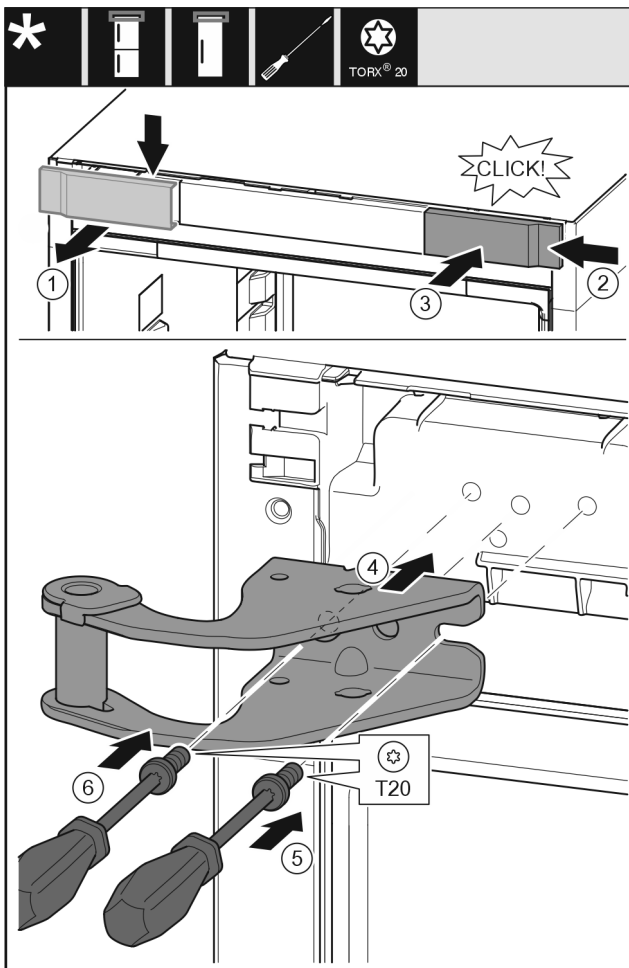

Fig. 29
- ▶ Remove the cover Fig. 29 (1) from the top towards the front.
- ▶ Hang the cover Fig. 29 (2) from the right turned by 180° to the other side.
- ▶ Snap in the cover Fig. 29 (3).
- ▶ Attach the top swap bearing block Fig. 29 (4).
- ▶ Attach and tighten the screw Fig. 29 (5) with a screwdriver.
- ▶ Attach and tighten the screw Fig. 29 (6) with a screwdriver.